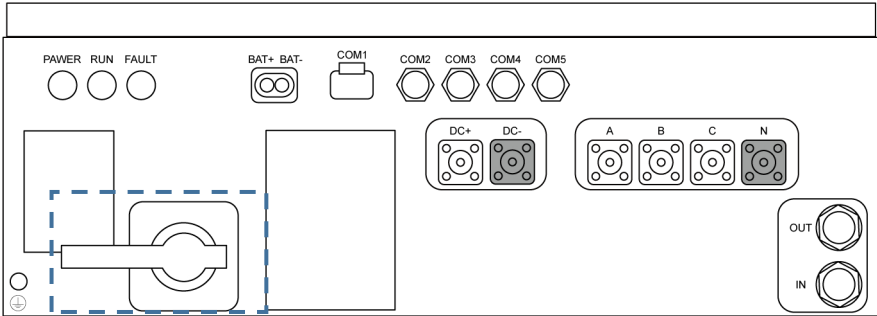

Figure.4
- ⑥ Respectively turn on circuit breaker(s) on one or two power conversion systems (PCS). See the Figure.4.
- ⑦ Turn on the auxiliary power breakers **QF1** and **QF2**, press the **START** button, and then turn on the **DCDC MCB** on the DC PDU. See the Figure.4.